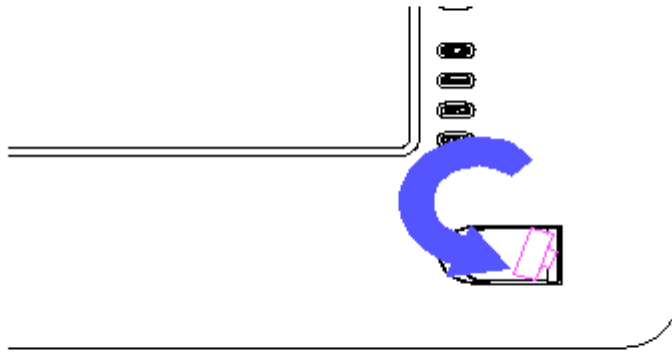

Figure 3-16. Installing the Keyboard Pivot
3. To install the hinge, engage one side of the hinge in its seat and snap the hinge into place (Figure 3-16). This is a fairly tight fit so you may have to exert considerable pressure.